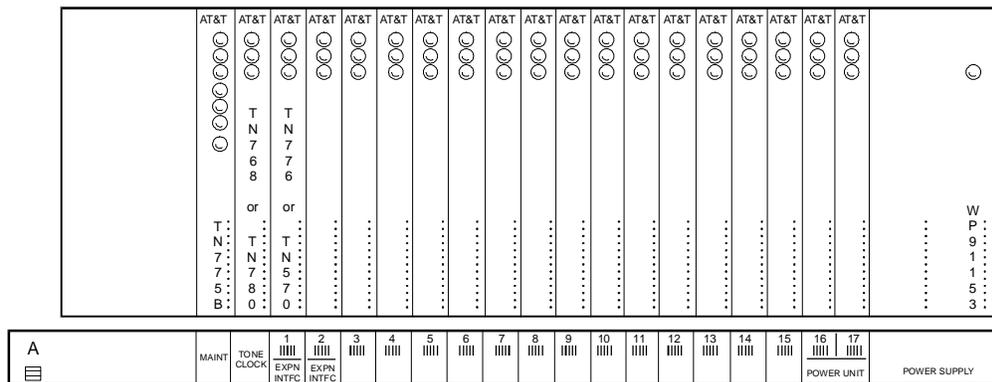

Figure 2-20. Circuit-Pack Locations in G3i V4 Expansion Control Cabinet
2. See preceding WARNING and following NOTE. Using Figure 2-20, the label, and the annotated "list configuration all" (provided with the G3i V4 translation memory card), install the G3i V4 control circuit packs into the new expansion control cabinet.